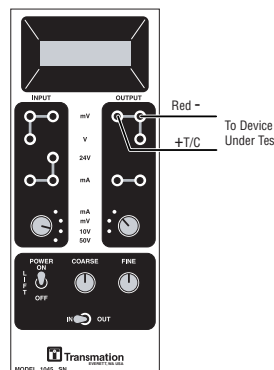

Figure 2-12a
1. Connect the Model 1045's mV output terminals to the T/C device under test, using the appropriate type of T/C leads (see Figure 2-12a below). Connect the red T/C lead between the negative (-) terminals and the color-coded lead between the positive (+) terminals.